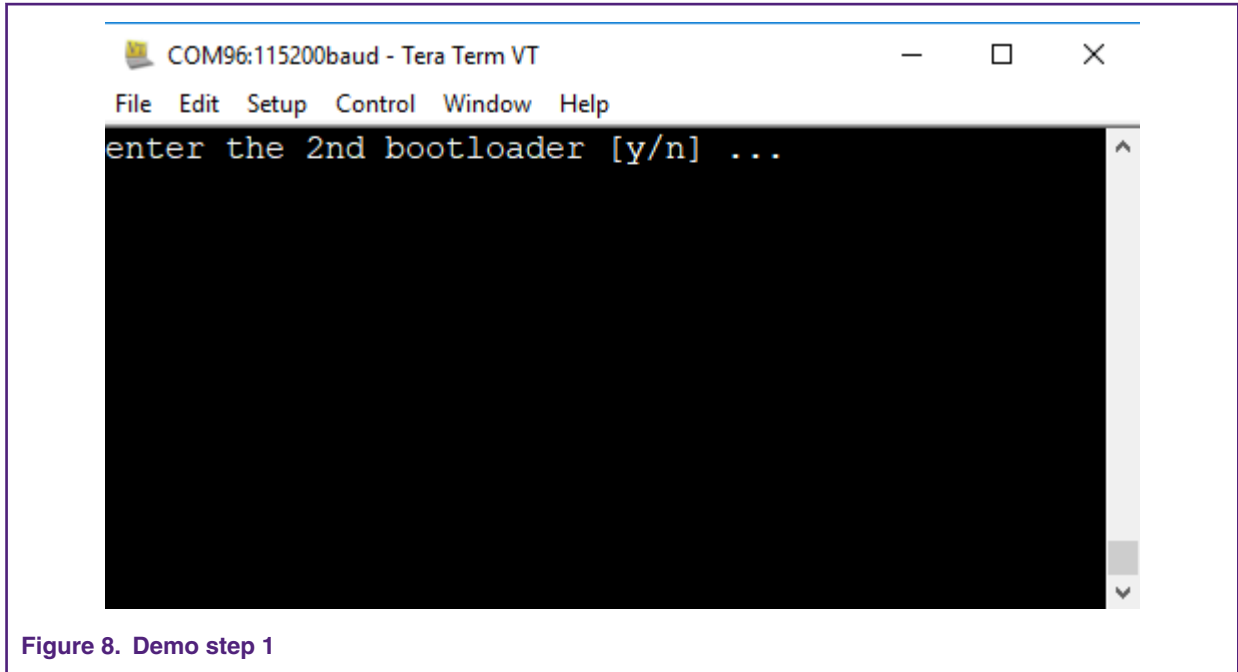

Figure 8. Demo step 1
- Reset the board, and a question is printed to the UART terminal. The SBL will wait for the input for about five seconds, as shown in Figure 8. on page 16.